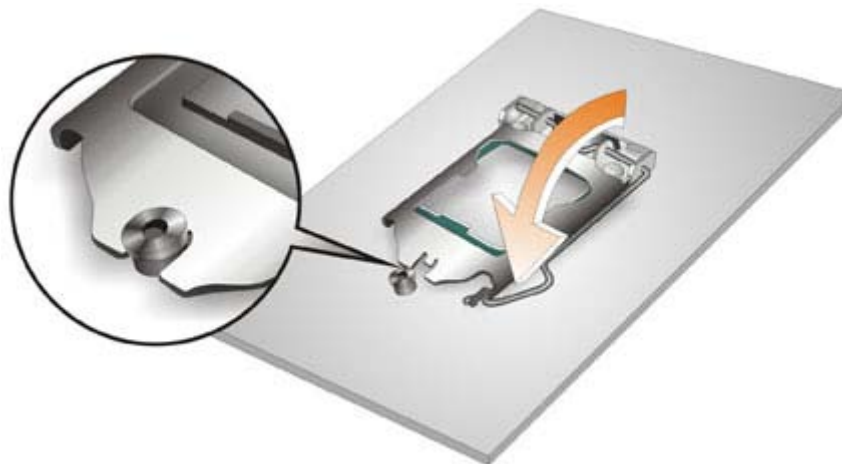

Figure 4-4: Close the Socket LGA1155
Step 8: Close the CPU socket. Close the load plate and pull the load lever back a little to have the load plate be able to secure to the knob. Engage the load lever by pushing it back to its original position (**Figure 4-4**). There will be some resistance, but will not require extreme pressure.